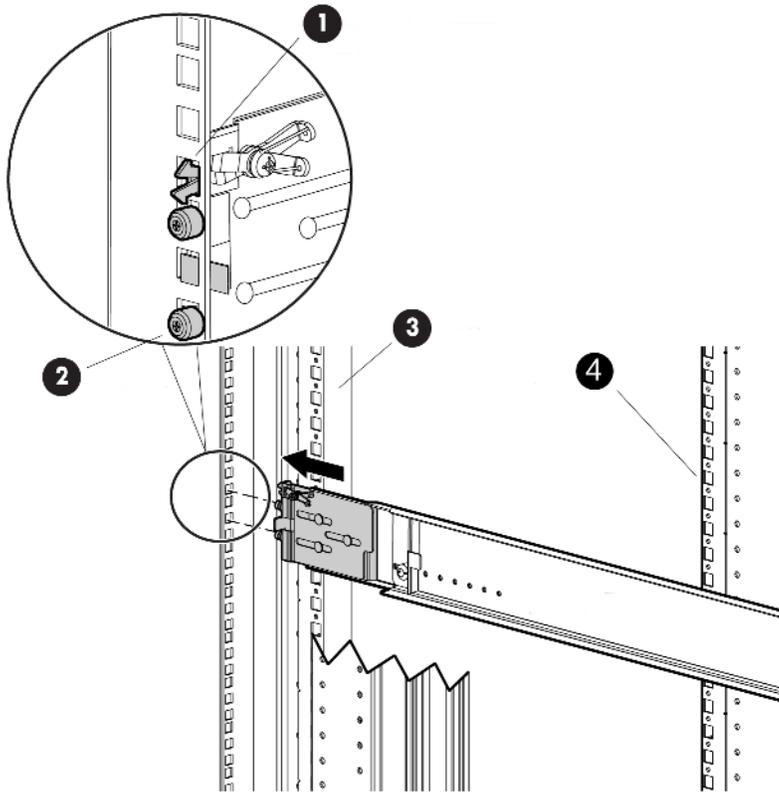

Figure 5 Attaching the rear rail
1. On the rear of the rail, squeeze the scissor latch (1, Figure 5) together to insert the rail and pins through the rack holes (2) until the latch engages.